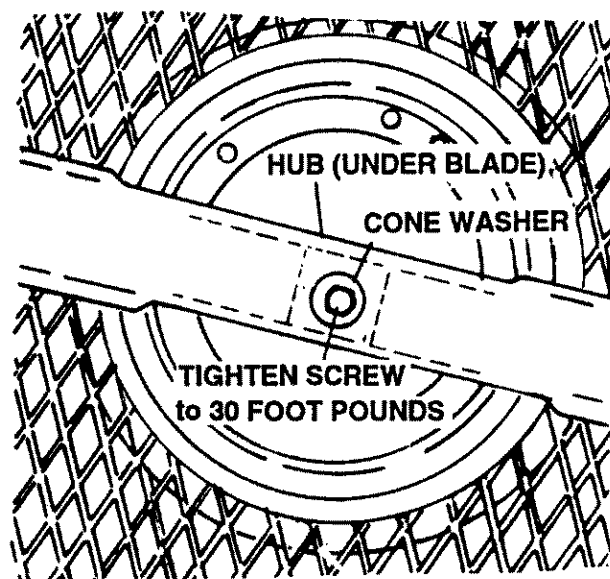

Fig. 2 - Blade Installed After Screen
- 2: Reinstall the cutting blade, position widest part of cone washer next to the blade then reinstall the retaining screw and tighten to 30 foot pounds torque. (See Figure 2).